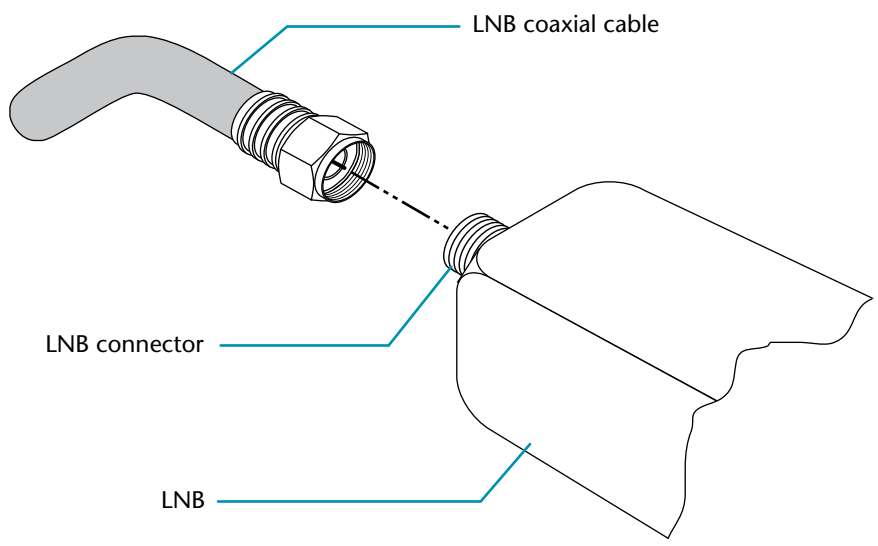

Figure 4-15. Installing LNB cable onto LNB connector
5. Install the coaxial cable onto the LNB connector (see figure 4-15).